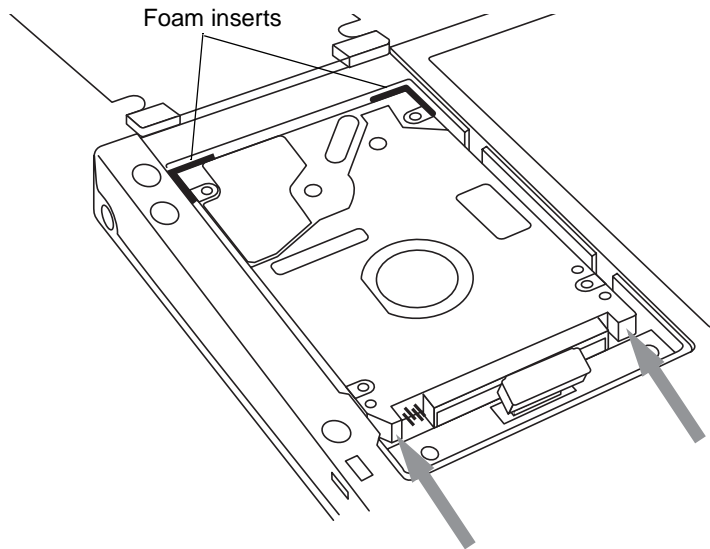

Figure A-3: Removing the Hard Disk Drive, Part 1
- Using your thumbs, push back on the two corners of the hard drive at the locations indicated in Figure A-3: Using firm pressure, push the hard disk drive towards the edge of the system. The small foam inserts on the end of the hard disk tray offer sufficient “give” for the drive to be removed without damaging the flex cable.